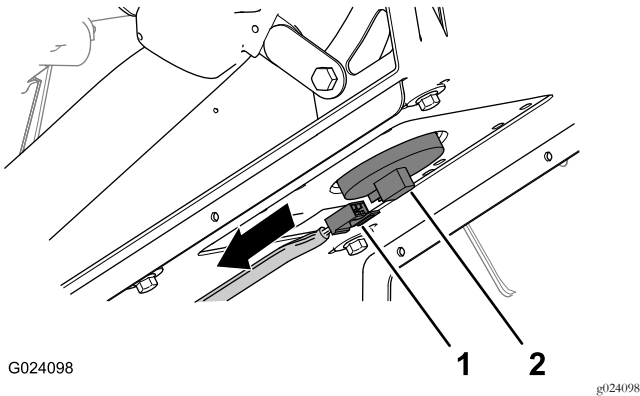

Figure 3
1. Remove the 2-socket connector of the machine wire harness that connects to the seat-switch connector (Figure 3).